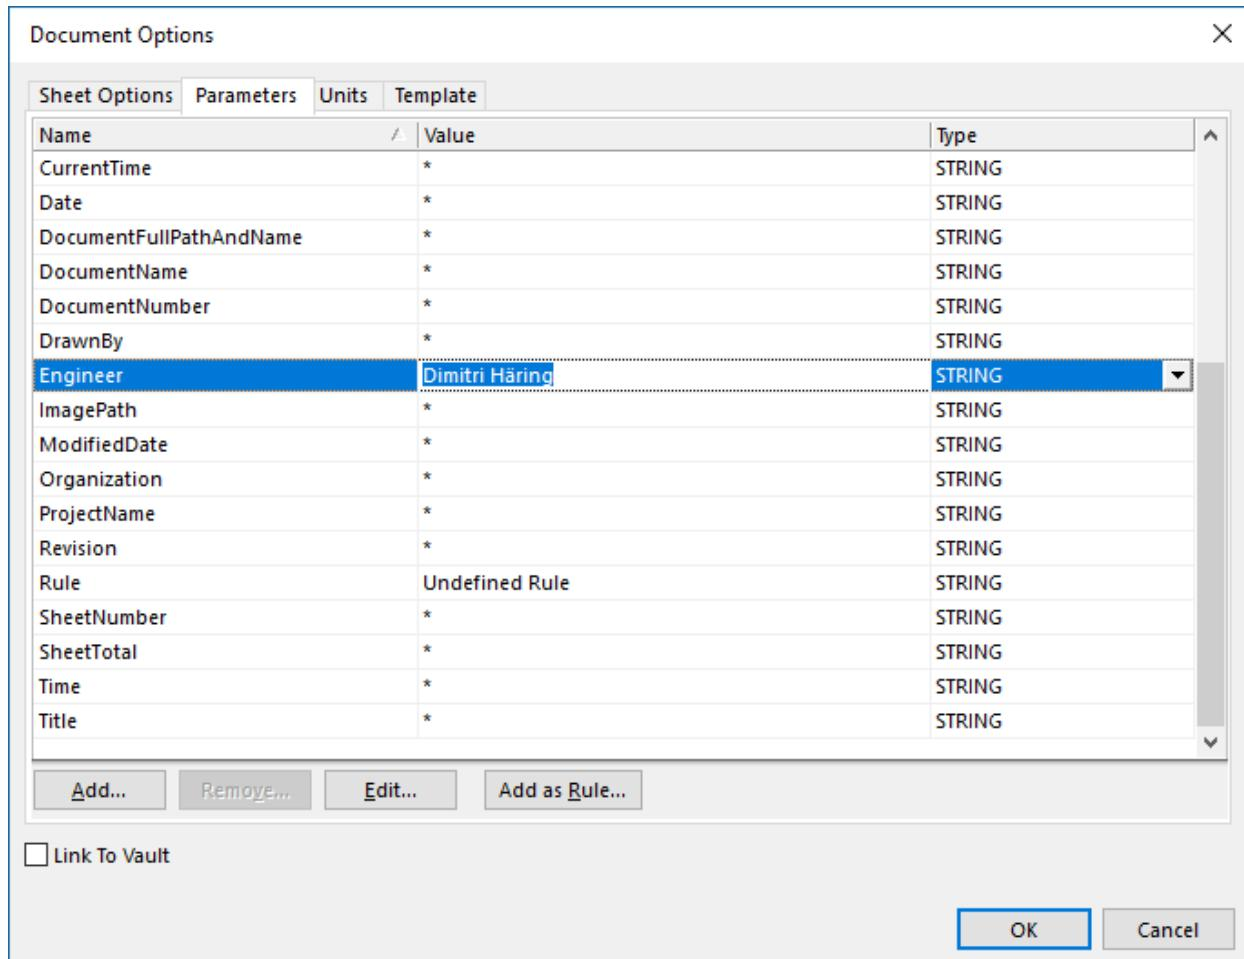

Figure 18: Altium Document Parameters Dialog.
10. To set the Document Parameters just change the register on top from sheet options to Parameters. The dialog will show all default parameters that are assigned to this sheet. Now fill out all the parameters that you can fill out or make sense to fill out as the Engineer, Date, Title, Drawn by, etc., as shown in Figure 18. In addition the dialog allows you to add parameters so if your organization requires an email address or an phone number as parameter use the "Add..." button.